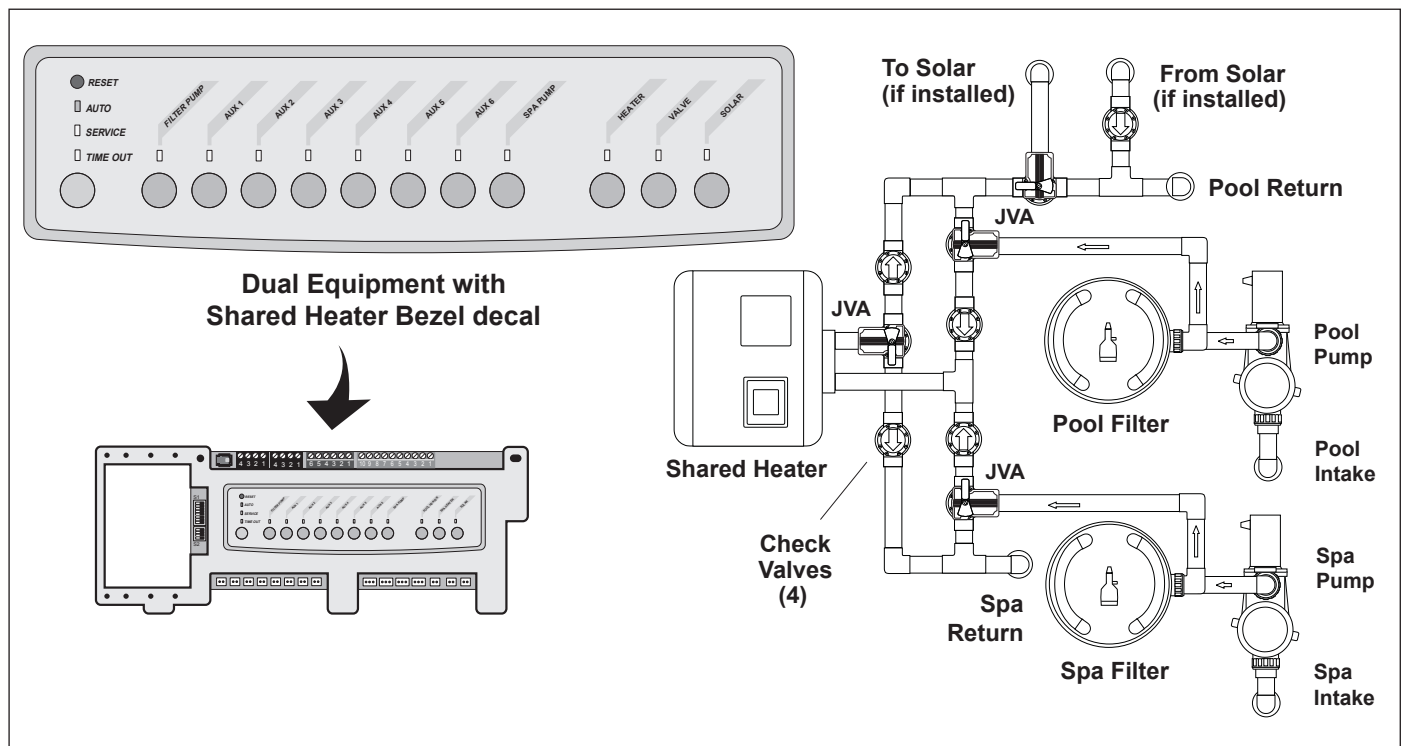

Figure 5. Dual Equipment System with One (1) Heater
2.4.4 Plumbing - Sharing One (1) Heater
When the system setup is using only one (1) heater, plumb the equipment as shown in Figure 5.
3. Turn the actuator over to see into the actuator shaft. There are four (4) "teeth" inside of the shaft. Align with the smallest slot on the valve (see Figure 5).